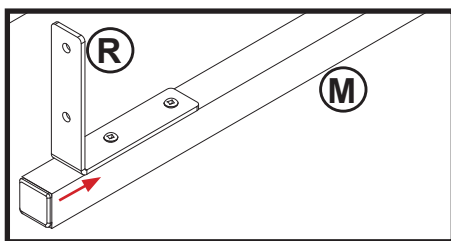

Figure 4.2
If a gap exist between cover and Angle Bracket (R), reposition the Angle Bracket on both Left and Right Extension Tube Assemblies as see in (Figure 4.2).